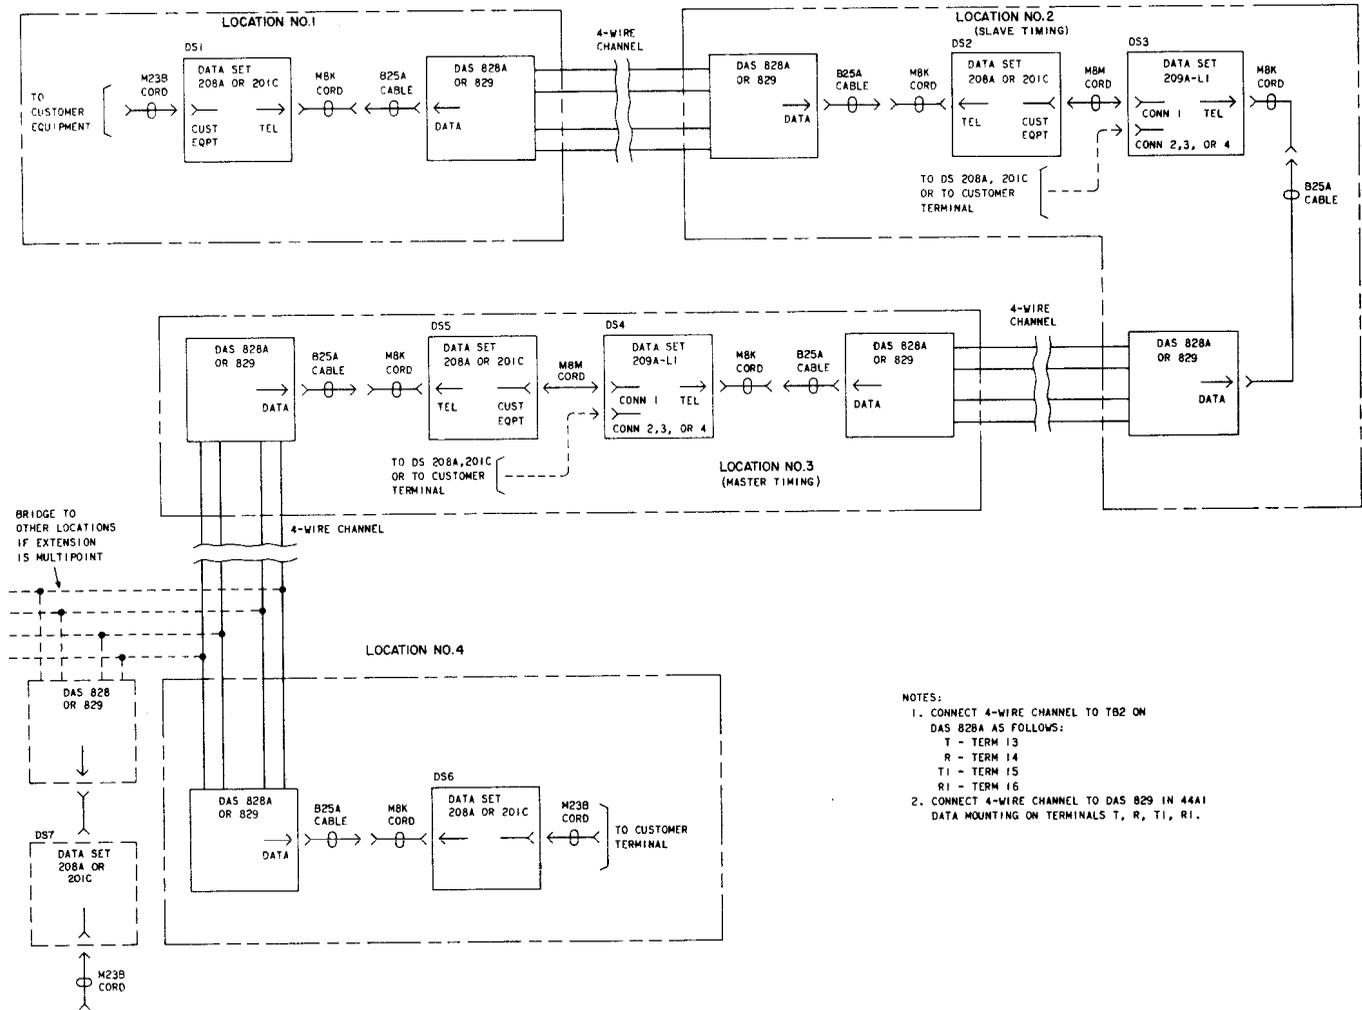

Fig. 15—Typical Many-Point Multiplex System—Connection Diagram
**5.08** Typical connection diagrams for many-point and one-to-many multiplex systems are shown in Fig. 15 and 16, respectively. Recommended options to be installed in the data sets are given in Fig. 3 and 4. In multiple installations of DS 209A-L1, the data sets at the same location should be equipped with identical options when possible. This facilitates change-out problems where data sets are patched from one channel to another for maintenance purposes. In these installations, the compromise equalizer adjustment should be determined at the remote data set.